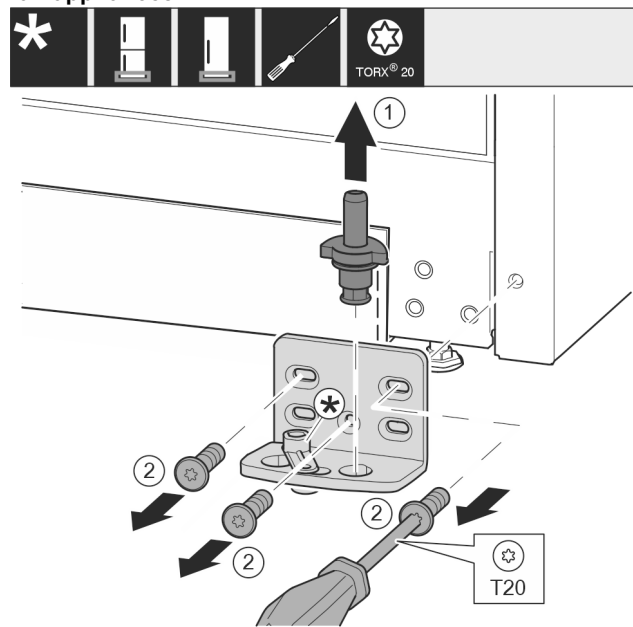

Fig. 11
- Lift the bearing pin completely upward and remove it. Fig. 11 (1)
- Remove the screws with the T20 screwdriver and take off the bearing bracket. Fig. 11 (2)